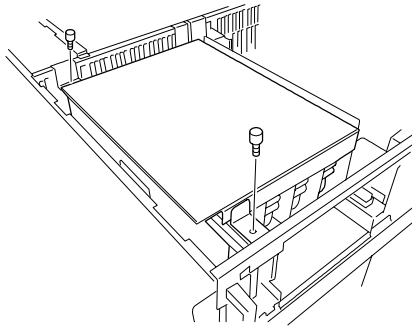

Figure 4-28. Securing a CPU box to the BSU Chassis
- 24.** Secure both CPU boxes to the BSU chassis with two thumbscrews, see Figure 4-28.